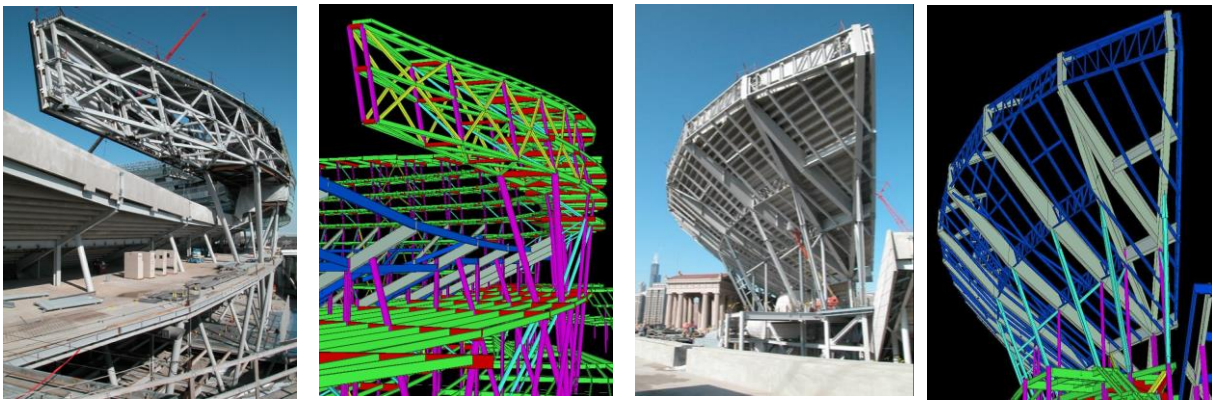

Figure 1: Soldier Field, Chicago, IL 1999-2003 – Steel Design/Fabrication/Erection & BIM Models
This paper looks at the experience of the author's engineering practice over the past several decades, tracing the evolution of design integration with digital fabrication technologies. This digital history begins with the design of Soldier Field football stadium in Chicago in 1999. One of the most significant achievements from a structural engineering perspective was the implementation of BIM for the steel frame. [Figure 1] The use of a BIM as a Contract Document for the steelwork allowed for a streamlining of the bidding and approval process, as well improving accuracy of the fabrication and erection of the steel frame, made possible using a single model from design through construction. The delivery of a steel model also allowed for 3D coordination with precast seating risers, as well as the building skin. This was one of the first time this was used at a large scale by Thornton Tomasetti, and now, looking back at the evolution of our use of BIM, this project laid the foundation for many other systems and innovations to follow. Some of these innovations are supporting cloud computing, robotic fabrication, sustainability, and artificial intelligence (AI), with AI having the largest potential to disrupt our industry.